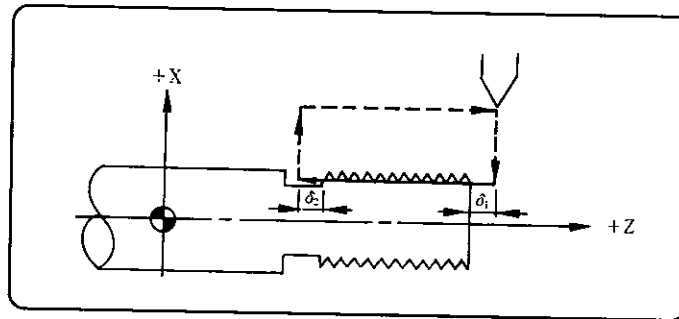

Fig. 2.5.8 Start and End of Screw Cutting
Since a lead error occurs at the start and end of screw cutting, slack shown by  $\delta_1$  and  $\delta_2$  in Fig. 2.5.8 must be taken. See (6) for how to take up the slack in imperfect screw portions.